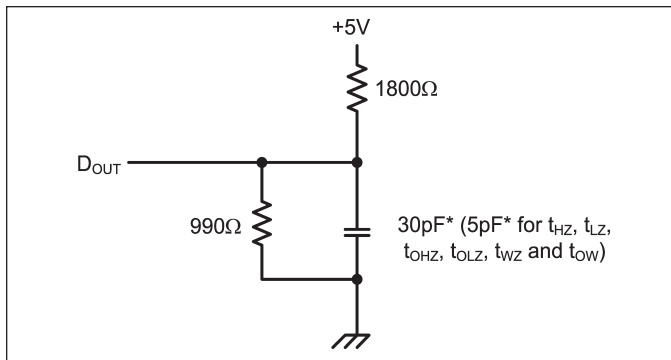

Figure 1. Output Load
- Transition is measured  $\pm 200$  mV from steady state voltage prior to change, with loading as specified in Figure 1. This parameter is sampled and not 100% tested.
Output Load	See Fig. 1 and 2